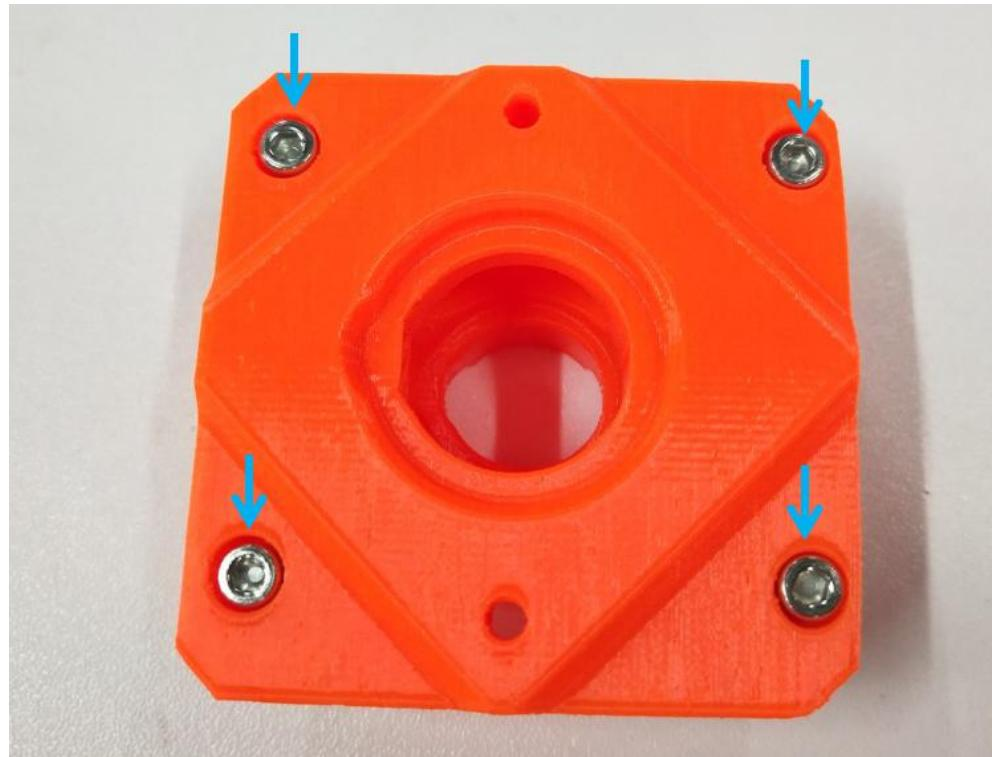

Figure 2.5.4
**Step 2-5-3:** As shown in Figure 2.5.4, pre-tighten 4pcs M3×12 cylindrical head bolts (to facilitate installation in the next step) to the four bolt holes on the MINI-z-carriage-front in position.